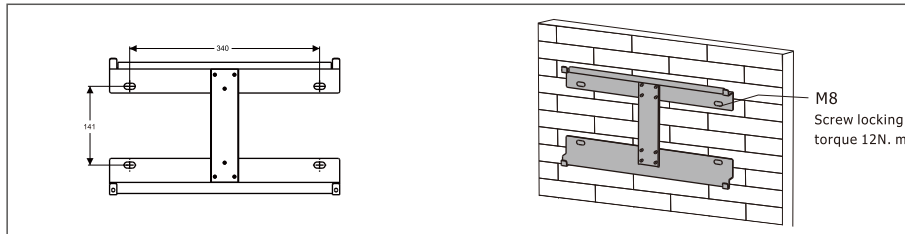

Figure 3.4-1 Install Inverter hanging plate
Step 1. Please use the mounting bracket as a template to drill 5 holes in the right positions (10mm in diameter, and 80mm in depth). Use M8 expansion bolts in accessory box and fix the mounting With a 12mm drill bracket onto the wall tightly. The installation of inverter support is shown in Figure 3.4-1.